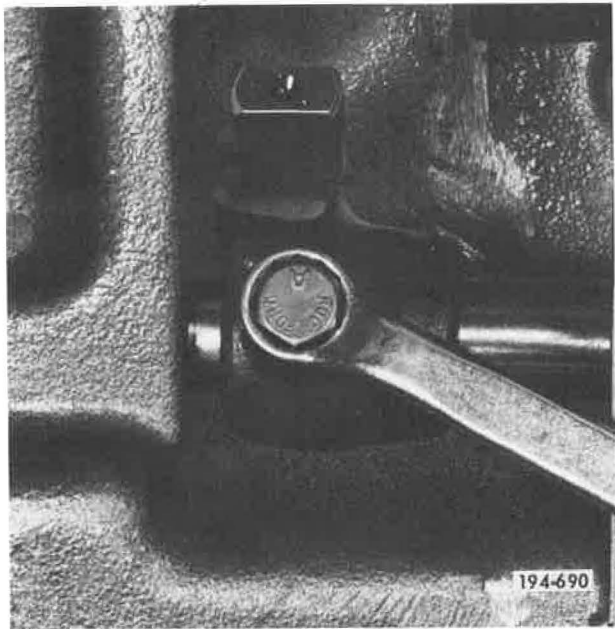

Figure 5-889. Installing Setscrew
23. Install reverse shifter setscrew, and tighten to recommended torque. Refer to Torque and Tolerance Table, Item 8. See Figure 5-889.